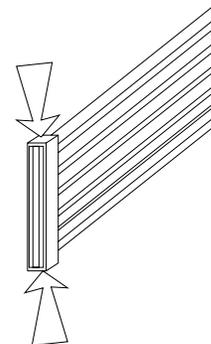

Figure 4. Removing a ribbon cable by gripping the connector at the top and bottom
- Disconnect the GPIB and I/O Control ribbon cables, which obstruct access to the CPU board. To avoid damaging the cables and connectors, grip the top and bottom edges of the connector and carefully pull from the top and bottom alternately (e.g., Figure 4). Remember to pull only on the connector (not on the cable).